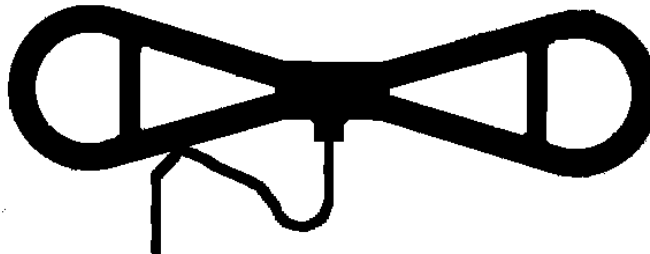

Figure 1, Antenna Cable Strain Relief
31. Referring to Figure 1, measure back 4” from the connector that attaches to the Figure 8 Loop. Place that point on the cable next to the Figure 8 Loop and place a Cable Tie (58878-0016) on it. This will stop the cable from being pulled out of the Antenna Cable Connector.